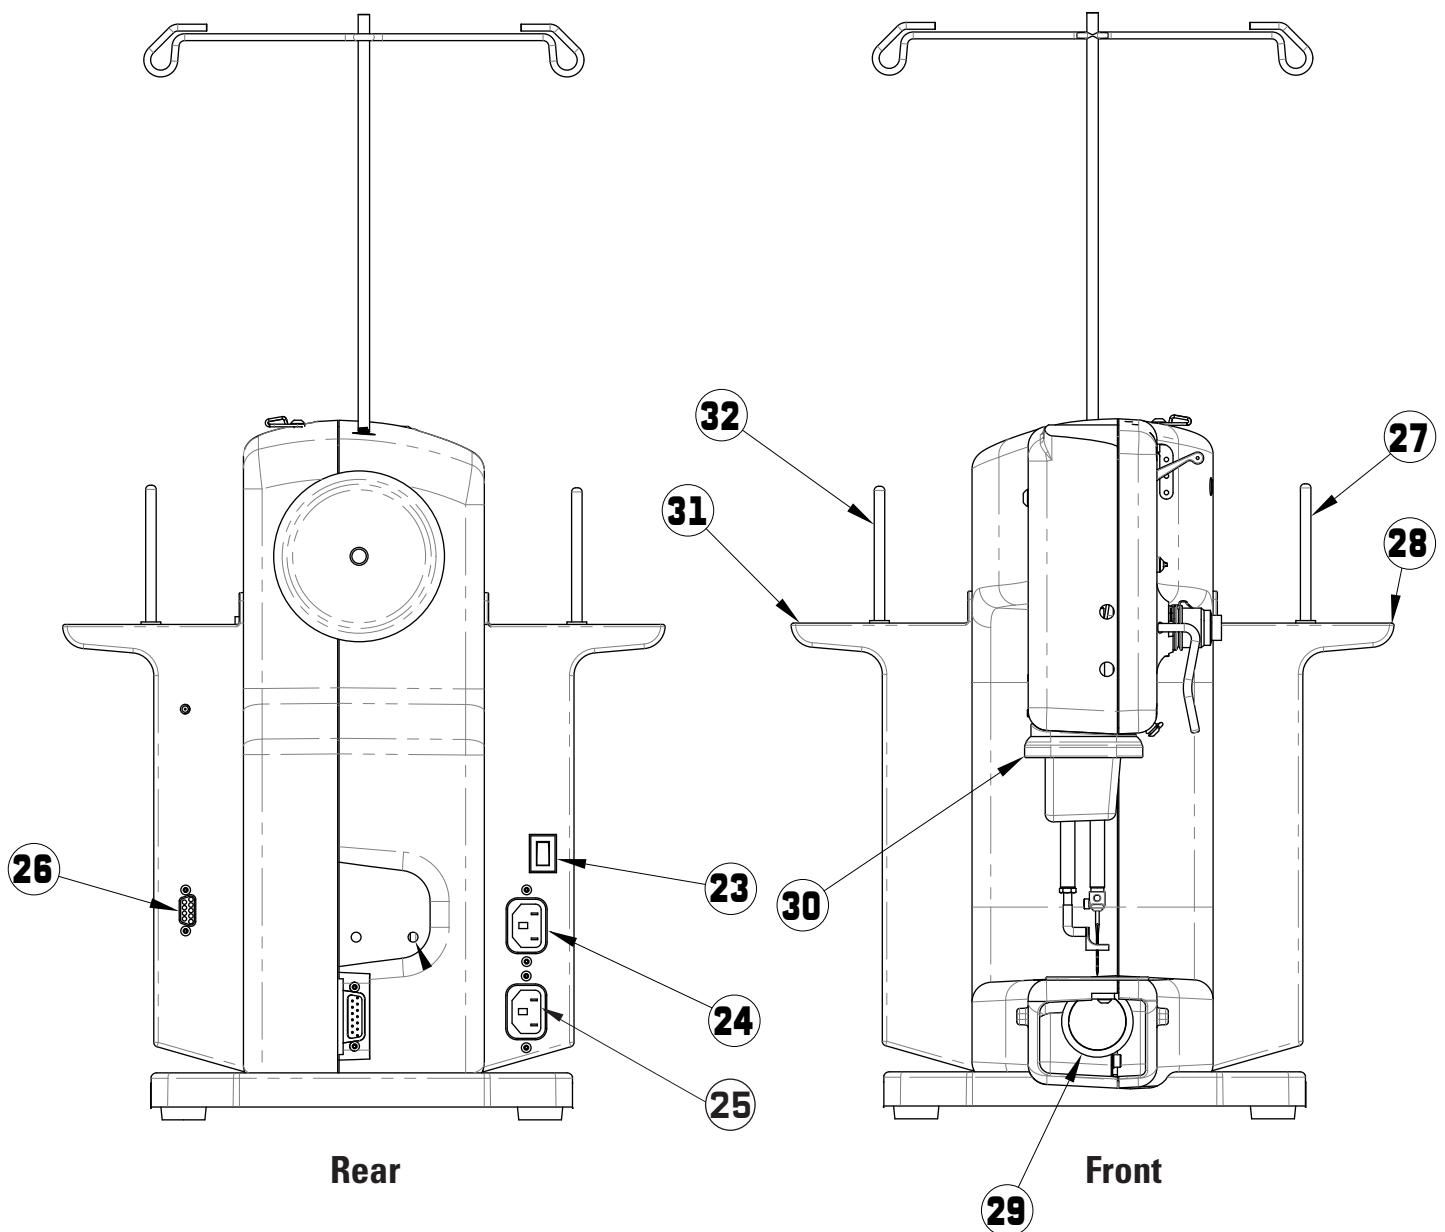

Figure 3
Check that the On/Off switch (page 12, Figure 3, # 23) is turned off (the 0 setting). Plug the power cord into the top power outlet on the back of the machine (Figure 4). Do not plug the power cord into a power source at this time.
1. Plug in the foot pedal cord end into the foot pedal connector (see page 12, Figure 3, # 26).